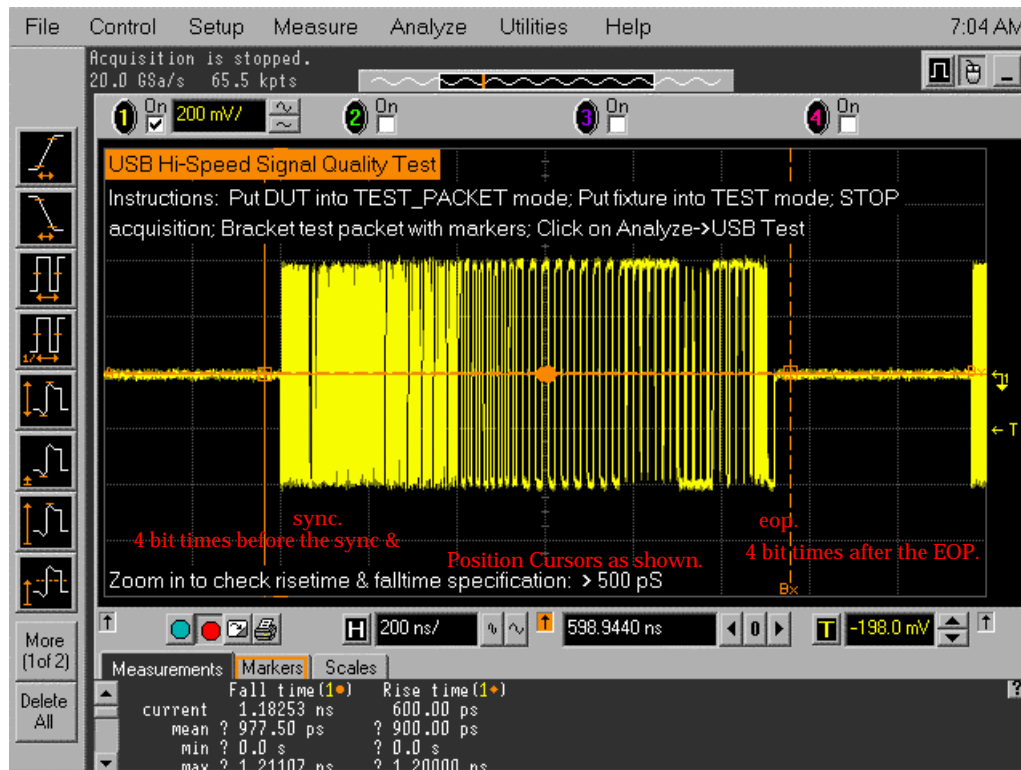

Figure 12. Test Packet – Downstream Facing Ports
11. On the oscilloscope adjust the two vertical markers as shown in Figure 12.